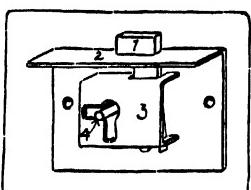

Fig. 236. Rim-lock, for Drawer.
Locks may be classified: (1) According to their *uses*, of which there are two types. (a), Fig. 236, For drawers, cupboards, tills, wardrobes, and doors. In these the bolt simply projects at right angles to the selvage into the strike, and resists pressure sidewise of the lock. (b), Fig. 237, For desks, roll-top desks, chests, boxes and sliding doors. In these, the bolt includes a hook device of some kind to resist pressure perpendicular to the selvage. In some locks, the hook or hooks project sidewise from the bolt, in others the bolt engages in hooks or eyes attached to the strike.
(2) According to the *method of application*, as rim locks, which are fas-